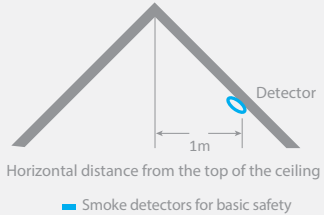

Figure 5
- If you have no choice but installing the detector on a sloped ceiling, try to install the detector at a horizontal distance of 1 m from the top of the ceiling, as shown in figure 5.